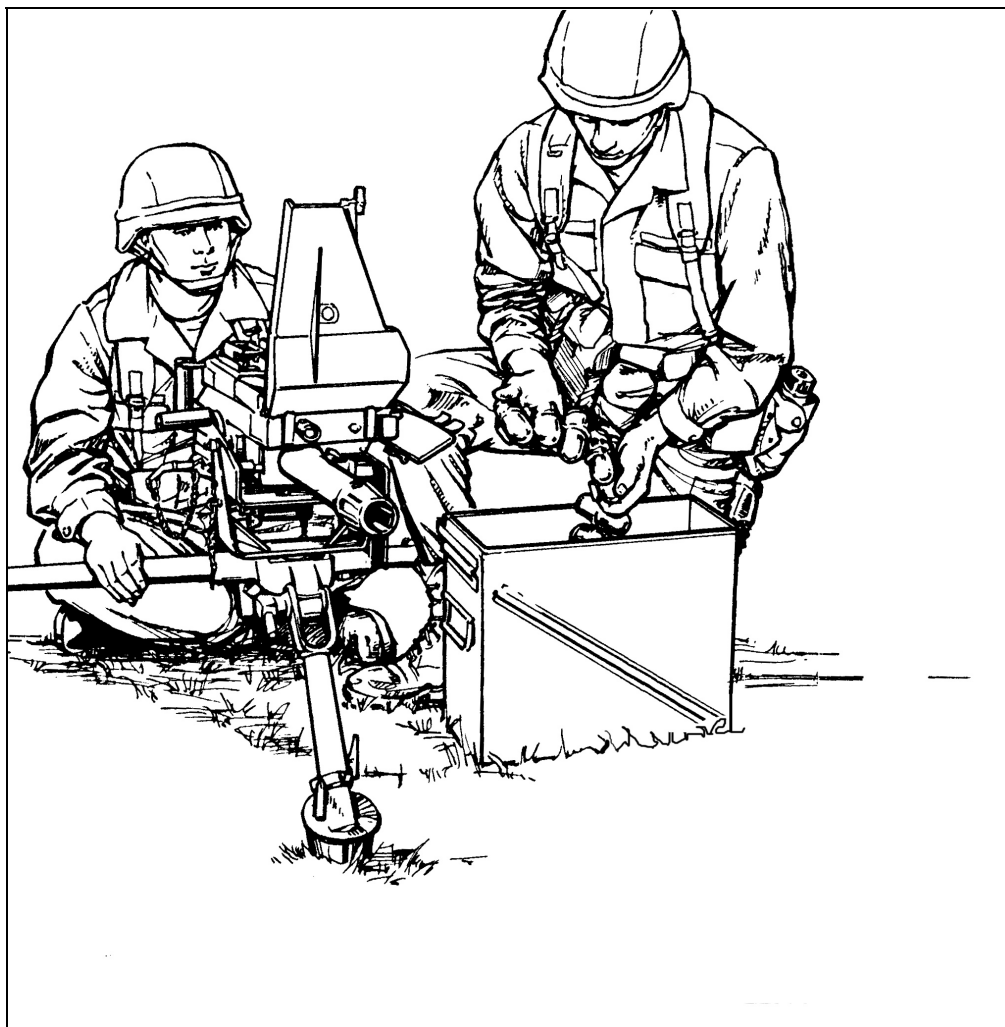

Figure H-9. Alignment of ammunition belt.
- (2) Takes the lid off and ensures the ogive ends of the rounds are pointed downrange (Figure H-9).
- (3) Gives the can to the assistant gunner.
- (4) Returns to the ammunition point and stands by to do whatever is needed to complete the mission.